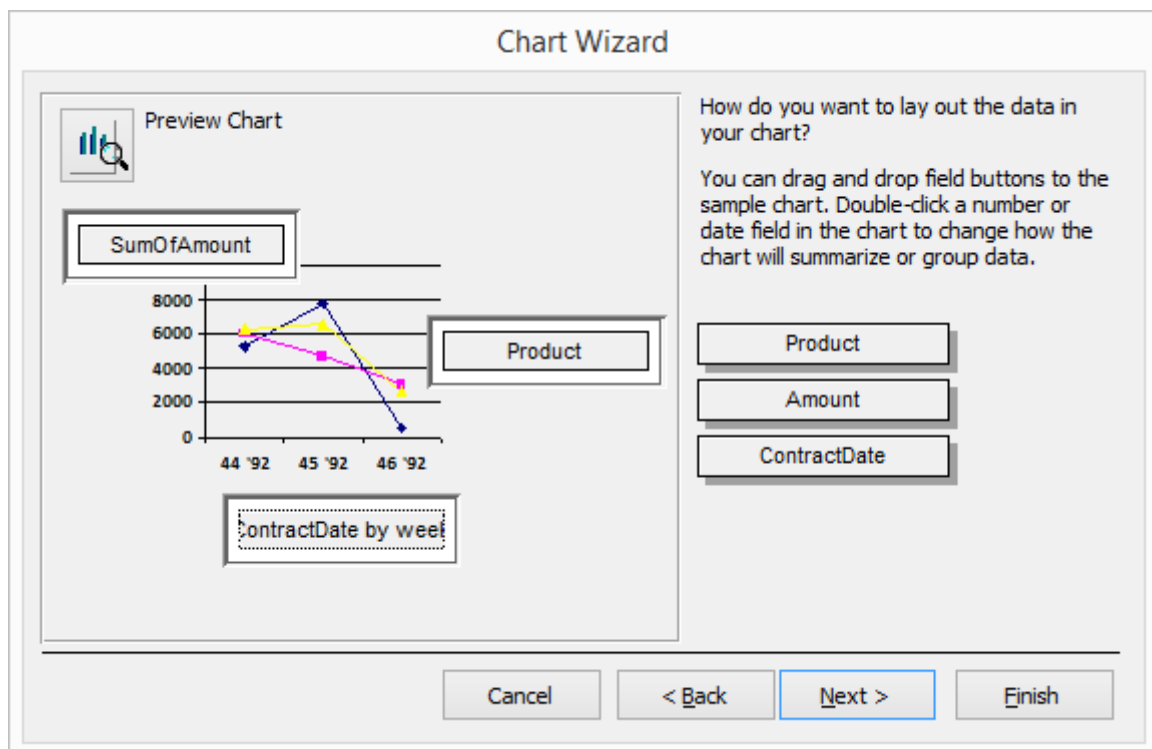

Figure 6.10
- 3) Select all available fields, select line chart type, and setup axis and series in the same manner it was done for the **Form1999ProductSupplyDiagram** form (figure 6.10);